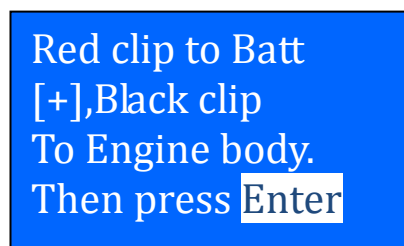

Figure 33
5. Press  key will proceed to the display as follows: (Fig. 33)